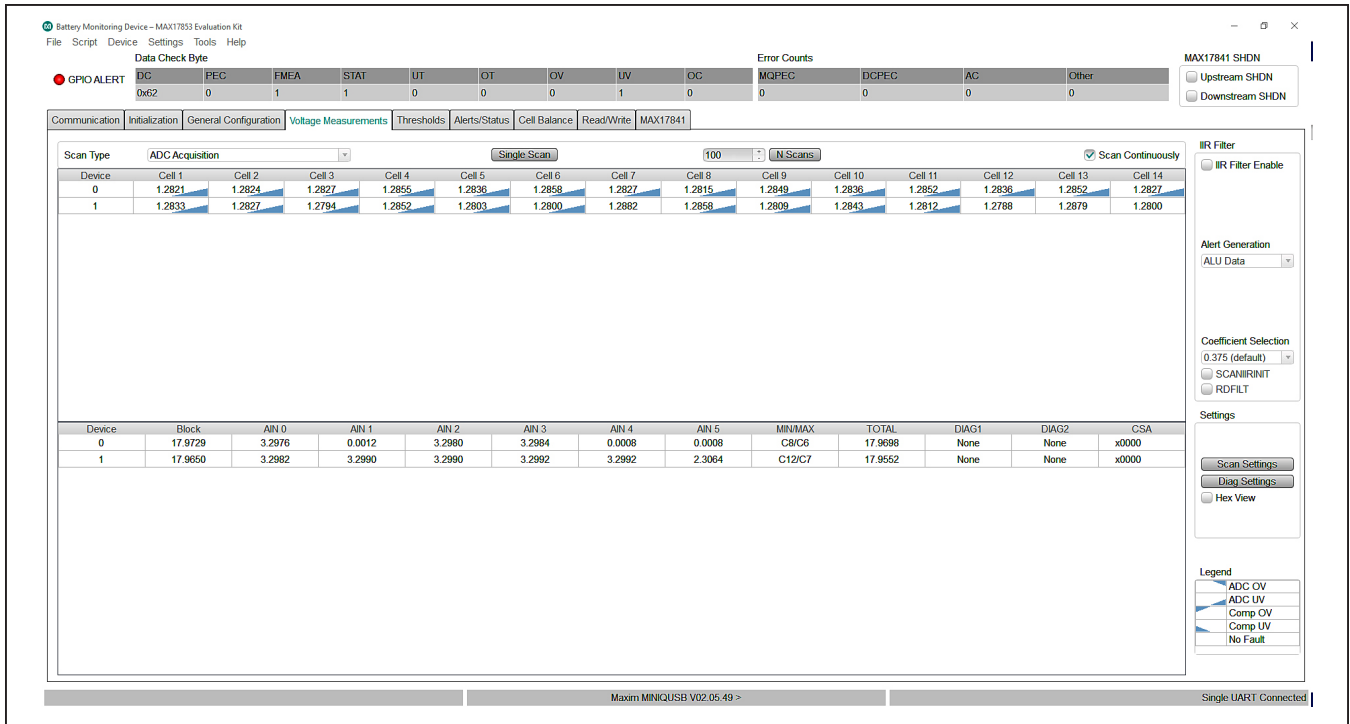
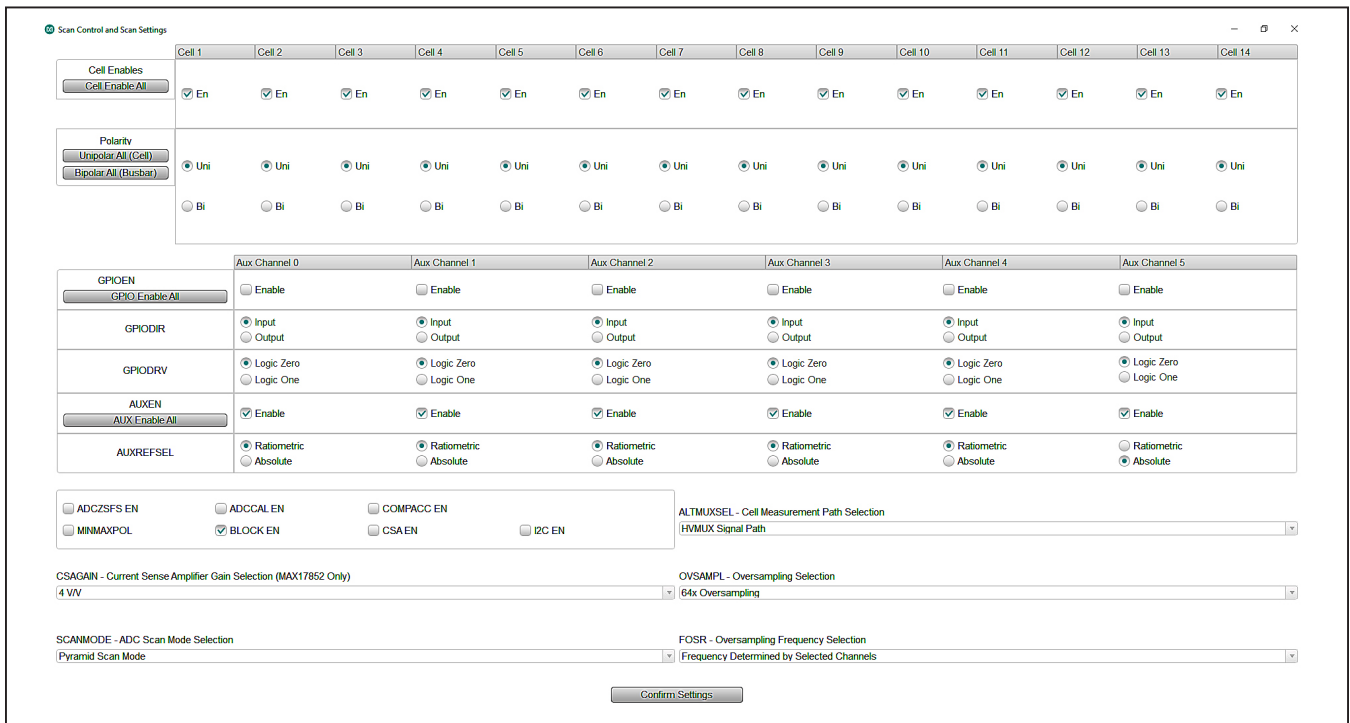
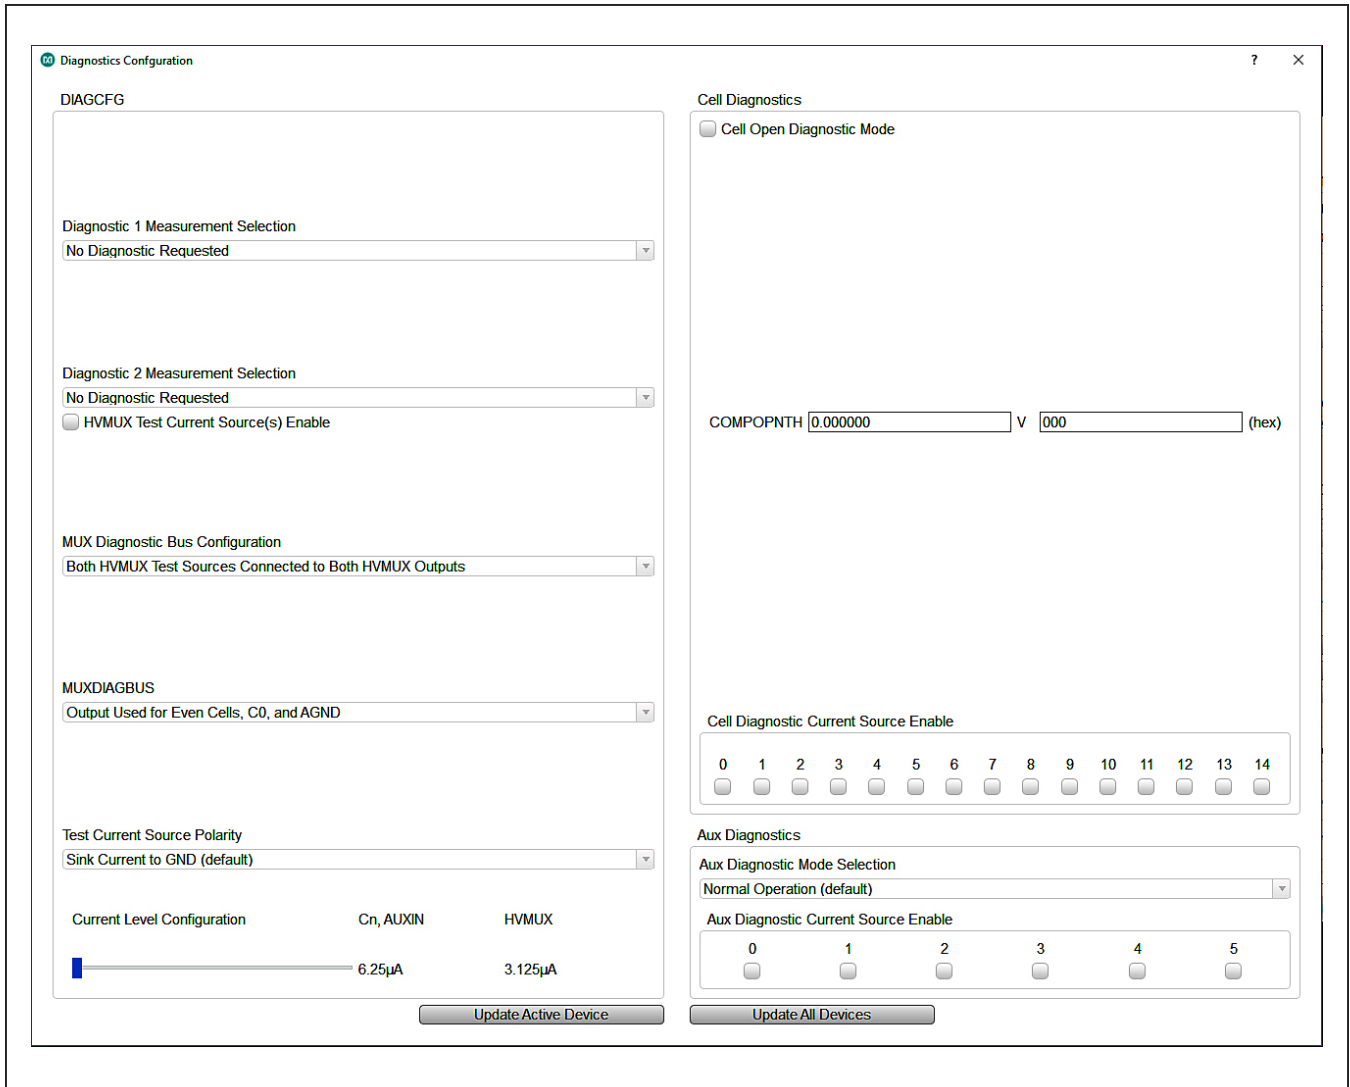

Figure 15. Voltage Measurements Tab
Figure 16. Scan Settings Panel
Figure 17. Diagnostic Settings Panel
The **Voltage Measurements** tab (see Figure 15) is the user interface for visually monitoring all cell measurement and AUX conversion values in the battery monitoring system. In addition, the **Voltage Measurements** tab can be constructed to display a visual indication of cell ADC OV/UV, comparator OV/UV, and communication alerts.
In the **Voltage Measurements** tab, the **Scan Settings** and **Diag Settings** buttons in the **Settings** group box on the right side of the GUI open into individual settings panels (see Figure 16 and Figure 17).
The following procedure describes how to use the GUI and EV kit to make **Cell Voltage** measurements and observe measurement and comparator OV/UV alerts in the **Voltage Measurements** tab (Figure 15).
- 3) Select the **Voltage Measurements** tab (Figure 15) and click on the **Scan Settings** button in the **Settings** group box to open the **Scan Settings** panel (Figure 16). First click the **Cell Enable All**, **Unipolar All (Cell)**, **BLOCK EN** checkboxes, and select **64x OVSAMPL** from the OVSAMPL a drop-down list at the bottom of the panel, and then click the **Confirm Settings** button.
- 4) Select the **Voltage Measurements** tab (Figure 15) and in the upper left corner, set the **Scan Type** to **ADC and Comparator Acquisition**, and then select the **Scan Continuously** checkbox. Observe that cell voltage levels are approximately equal in value. At this point, the MAX17853 is continuously reading the voltages across each of the 2kΩ resistors in the resistor ladder. Increasing the power-supply voltage increases the voltage across each of the 2kΩ resistors in the ladder.
- 7) Select the **Voltage Measurements** tab (Figure 15). Verify that voltage measurements are approximately 1.28V and no OV/UV voltage measurements or OV/UV comparator measurements are indicated. Slowly increase the power-supply voltage from 18.0V to 22.0V. Verify that OV voltage and comparator measurements are detected at the user-programmed OV thresholds by comparing the triangular indicator with the **Legend** on the lower right side of the window. The UV voltage and comparator measurements can be verified similarly by decreasing the supply voltage from 18.0V to 14.0V.
- 1) From the **Voltage Measurements** tab (Figure 15), in the **IIR Filter** group box, click on the **IIR Filter Enable** checkbox.
- 3) To see the dynamic effect of the IIR filter, set the **OVSAMPL** drop-down list in the **Scan Settings** panel (Figure 16) to **Single Acquisition**, and click the **Confirm Settings** button.
- 3) Select the **Voltage Measurements** tab (Figure 13) and click on the **Scan Settings** button in the **Settings** group box to open the **Scan Settings** panel (Figure 16). Click the **GPIO Enable All** button and set the **GPIO DIR** to Output. Set the **GPIO DRV** to the desired high or low level.